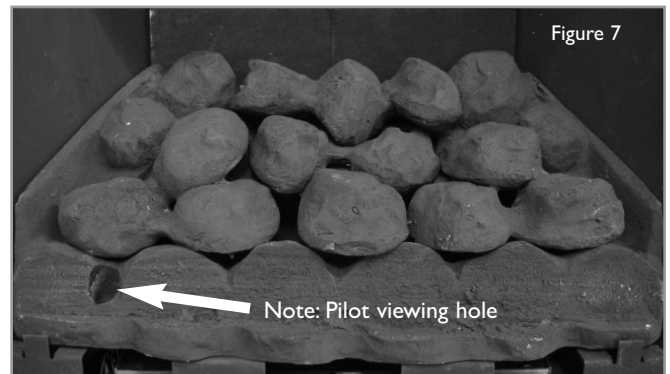

Figure 7
6. With pieces 'A' to 'D' correctly in position, the fuel bed should appear as shown in figure 7.